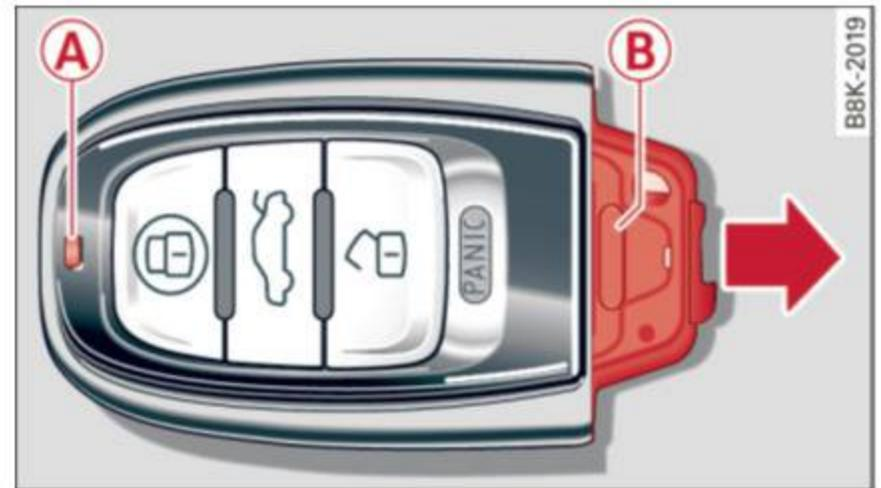

Fig. 21 Remote master key: removing the battery holder
The check light (A) ⇒ fig. 21 in the master key provides information about different conditions.
- ▶ Press the release button (B) ⇒ fig. 21 on the battery holder and at the same time pull the battery holder out of the master key in the direction of the arrow.